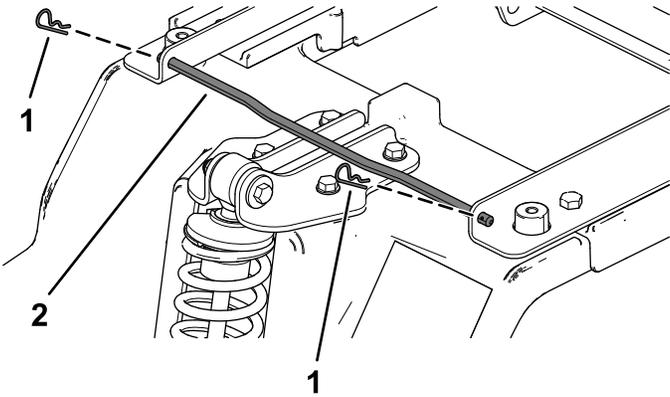

Figure 5
1. Remove the 2 hairpin cotters from the seat-pivot rod, and remove the seat-pivot rod from the platform (Figure 5).